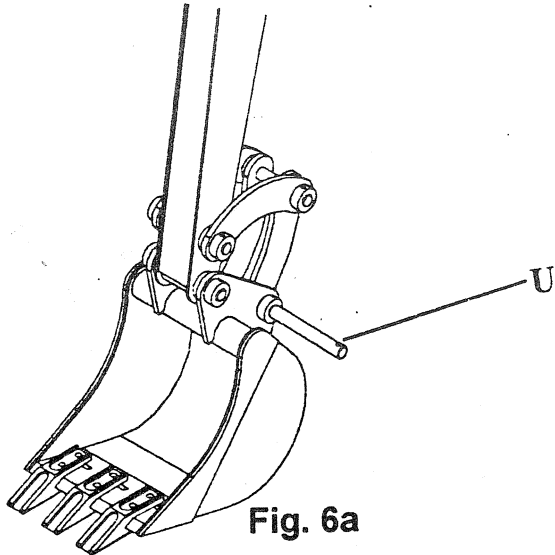

Fig. 6a
7) Insert the connecting rod pivot **U** Fig. 6a;